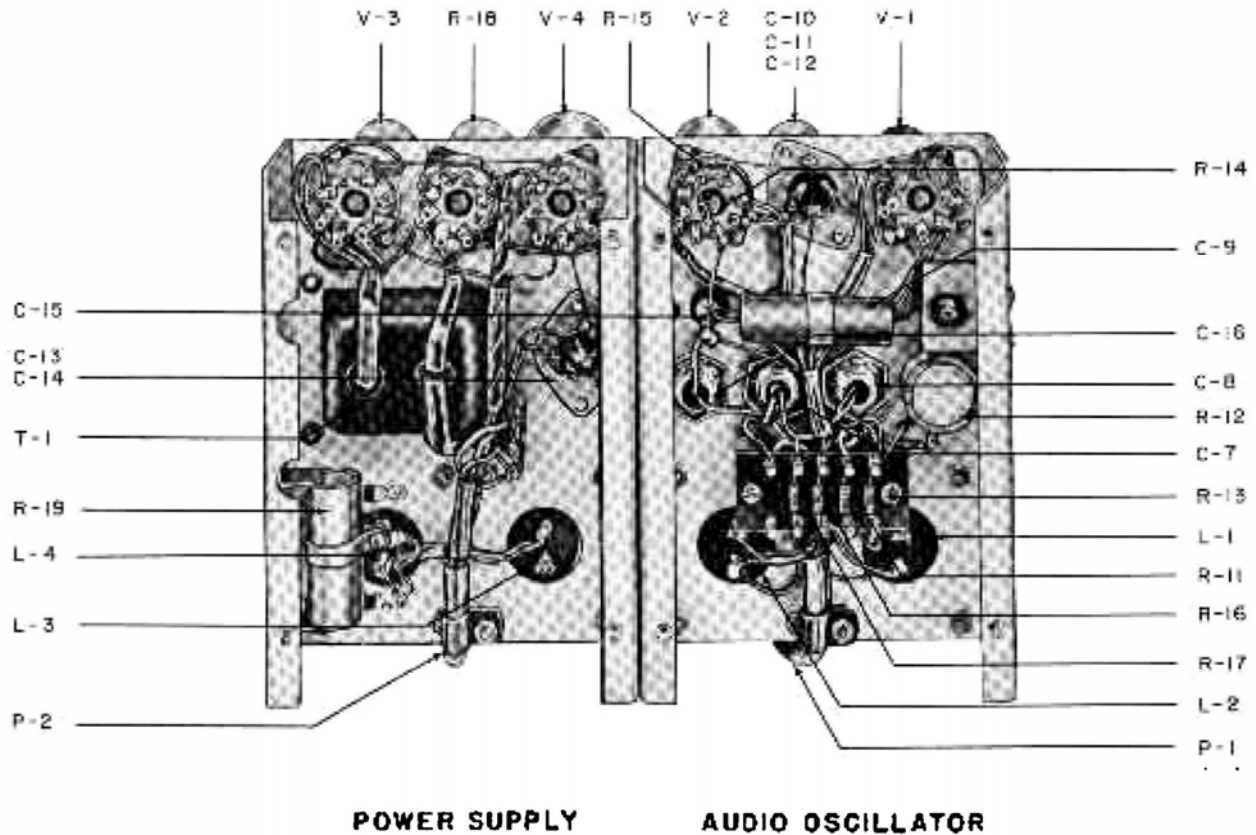

Fig. 7. Sub-chassis View of Power Supply and Audio Oscillator
b. VR-150 REGULATOR TUBE (Fig. 7).